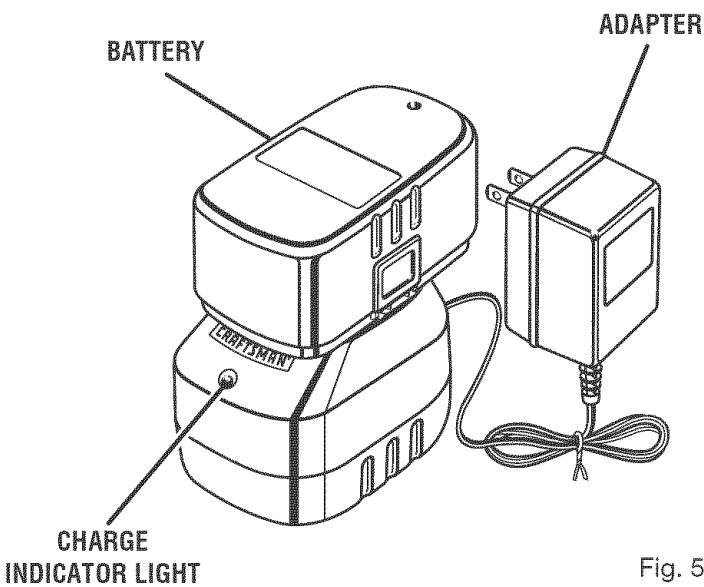

Fig. 5
- Place battery pack in charging stand. Align raised rib on battery pack with groove in charging stand. See *Figure 5*.